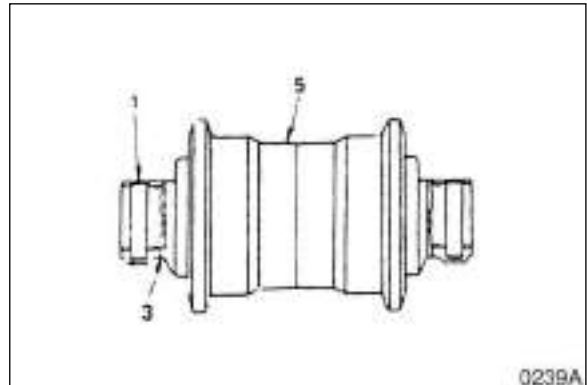

Figure 38
6. Install the collar (3, Figure 38), O-ring (2), and pin (1) on the remaining side.